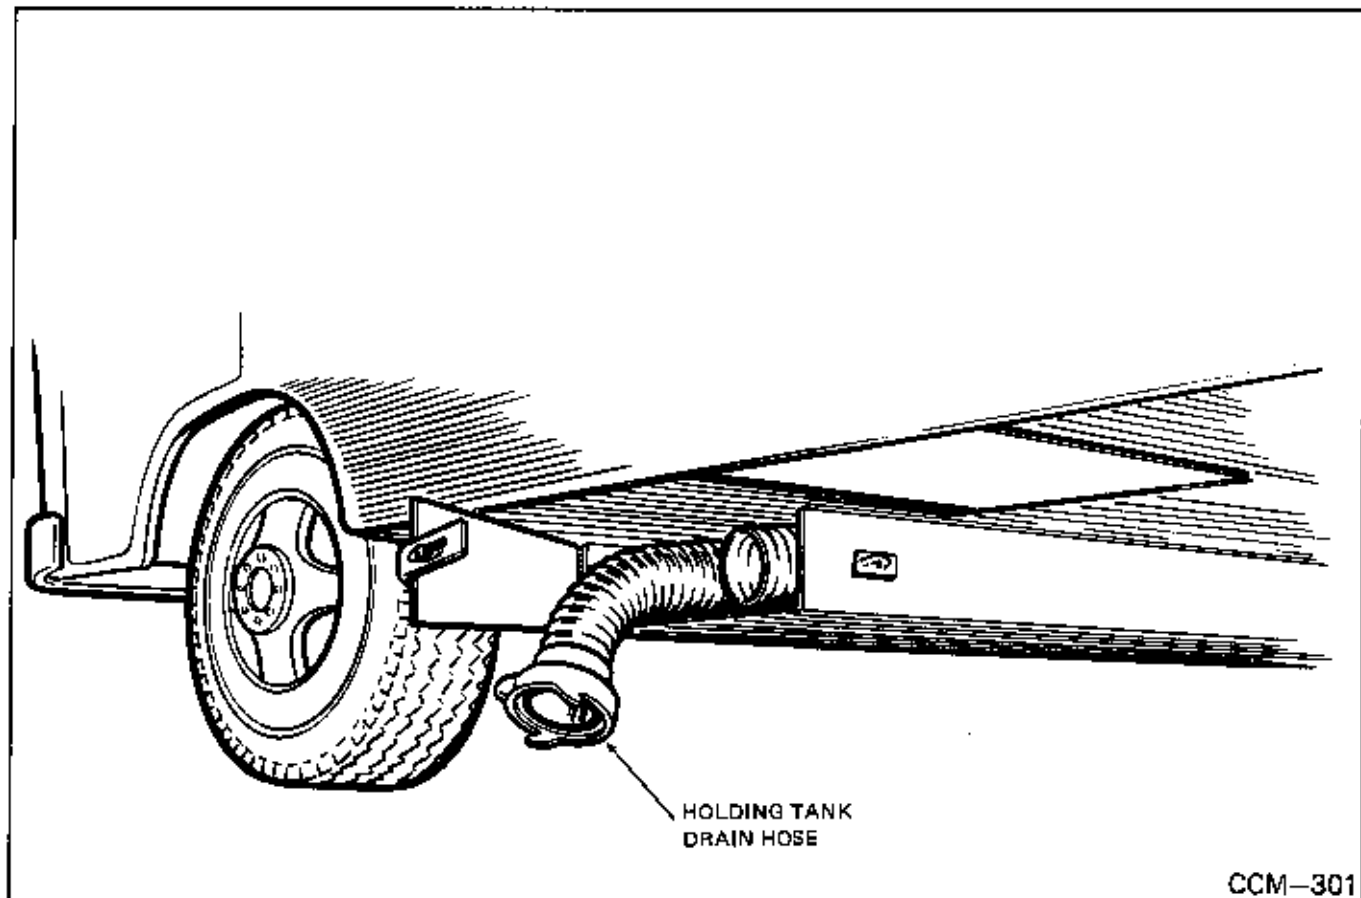

Fig. 19
Sewer Facility" on Page 15. After tank has drained, remove and store hose in its compartment and replace drain cap. (Fig. 19)
1. Remove drain hose from its storage compartment located to the rear of left front wheel, under vehicle. (Fig. 19)